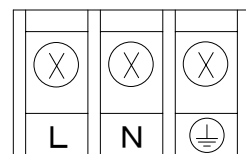

Fig. 4.2 Power source Terminal block
- 2) Connect the power source electric wire refer to Fig. 4.2. Connect the protective grounding to the  terminal. Connect the non-grounding side of the power source to "L" terminal. Connect the grounding side to the "N" terminal.